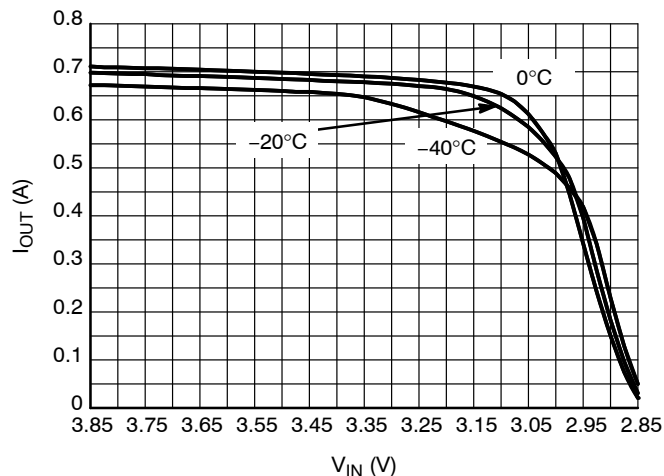

Figure 18. Output Current Capability for the 2.85 V Version
26. For output current capability for $T_A < 0^\circ\text{C}$, please refer to Figures 18 to 22.